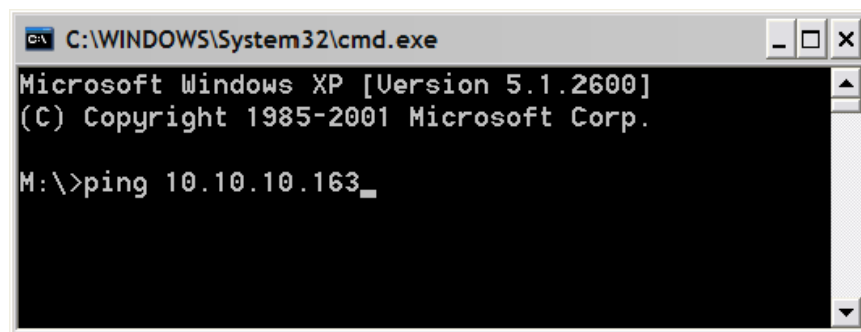

Figure 10. Pinging the Embedded System
2. At the prompt, type **ping** followed by a **space** and the **IP address** of the embedded system as shown in Figure 10. Press the **Enter** key when finished.